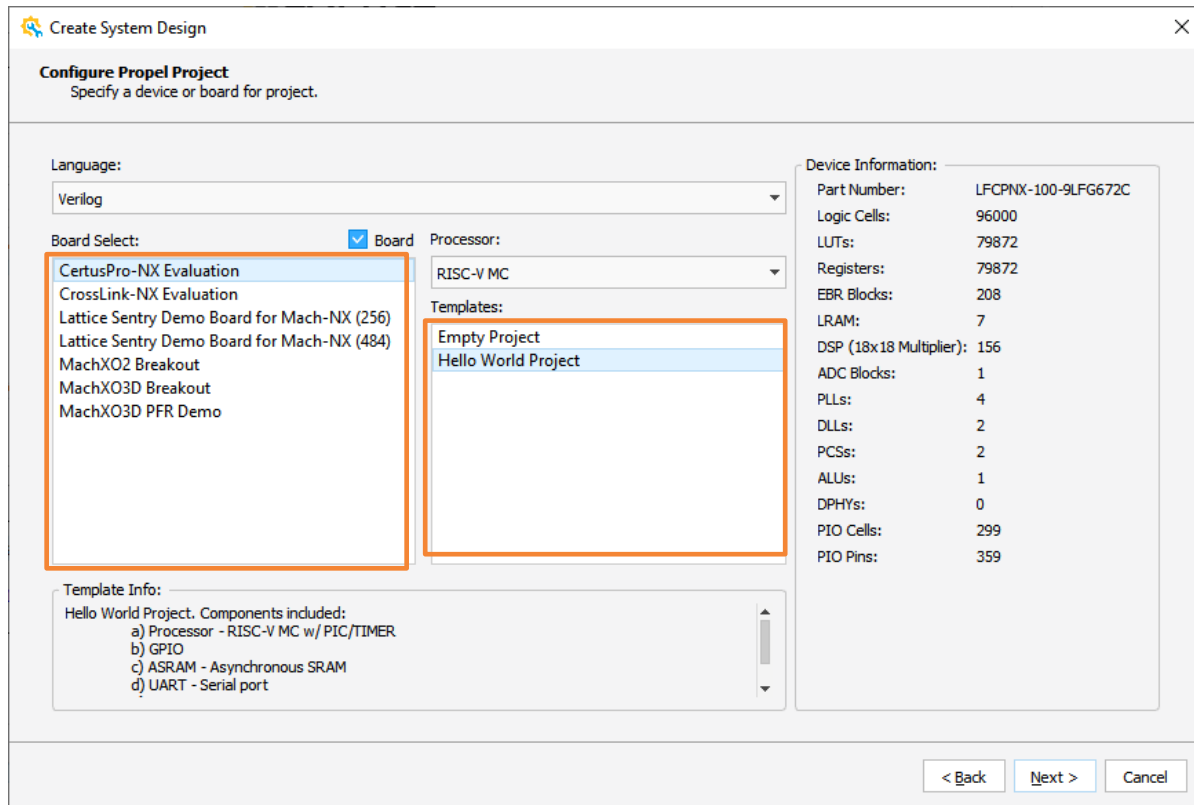

Figure 2.13. Specify a Board for Template SoC Project (2)
7. The Configure Propel Project wizard is shown (Figure 2.13). From the **Board Select** area, select the desired board, such as CertusPro-NX Evaluation.
8. Select a desired template from the **Templates** area, such as Hello World Project (Figure 2.13).